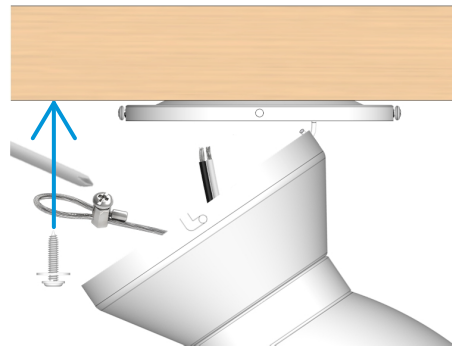

Fig. 3.3
**Option 2:** Refer to Fig. 3.3. Thread a screw, accompanied by a washer (both not included), through the center of the safety rope. Fasten the screw to the ceiling and then loosen the screw on the safety rope lock using a screwdriver. Pull the safety rope taut and then tighten the screw on the safety rope lock to securely anchor the safety rope to the fixed screw on the ceiling. Always double-check to ensure the safety rope is taut.